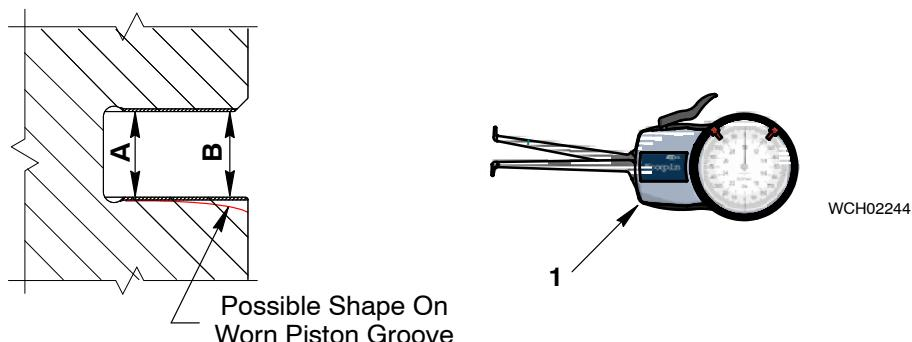

Fig. 5
- 1) Use the calliper gauge (1, Fig. 5) or inside micrometer set (94101) to measure the height of the groove at point A and point B. Measure the height of the groove at a minimum of four locations around the circumference of the piston head.
- 2) Record the value from the calliper gauge (1) or inside micrometer set (94101).